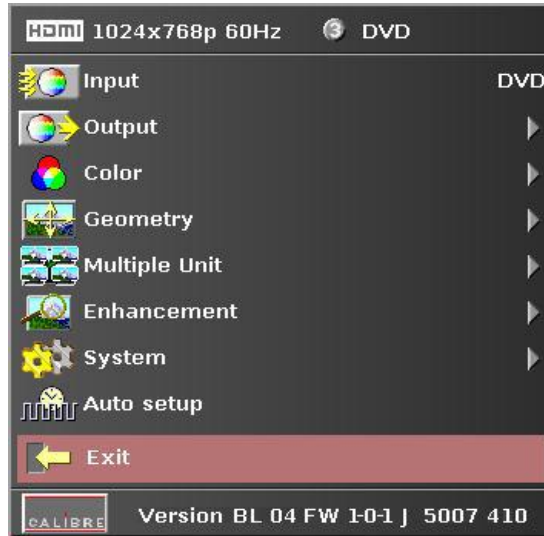

Figure 2
- a/ In the top menu (figure 2 above), select 'multiple unit'